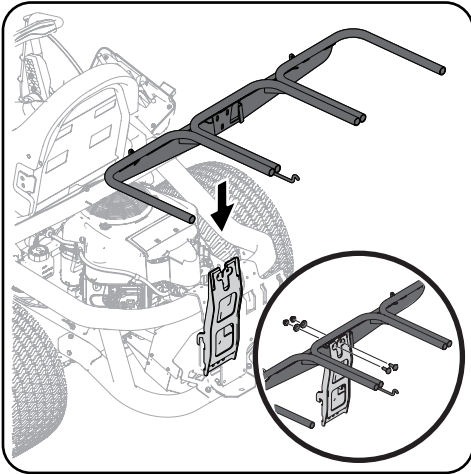

Figure 4-7
1. Install and secure the hanger assembly onto the upright support bracket using two carriage bolts (710-0276), two cup washers and two flange lock nuts (712-04063) from hardware pack 689-01419. Figure 4-7.